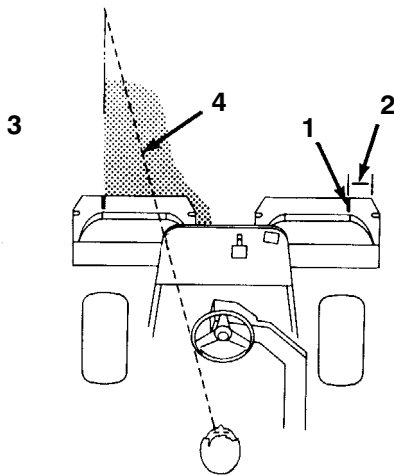

Figure 28
3. Overlap a minimal amount with the previous cut on return passes. To assist in maintaining a straight line across the green and keep the machine an equal distance from the edge of the previous cut, establish an imaginary sight line approximately 6 to 10 feet ahead of the machine to the edge of the uncut portion of the green (Fig. 28). Some find it useful to include the outer edge of the steering wheel as part of the sight line; i.e. keep the steering wheel edge aligned with a point that is always kept the same distance away from the front of the machine.